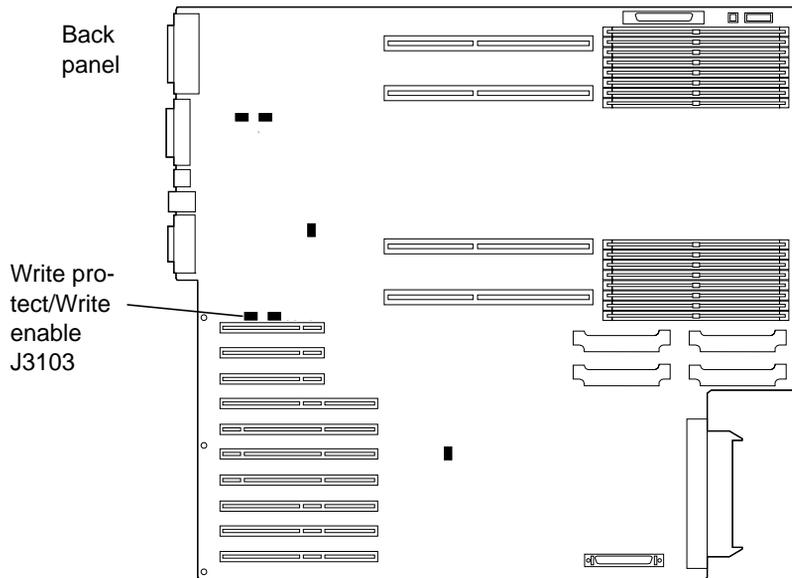

FIGURE 1-8 Ultra Enterprise 450 Flash PROM Jumper Location on Motherboard
- For an Ultra Enterprise 450 system, see FIGURE 1-8 on page 1-7.